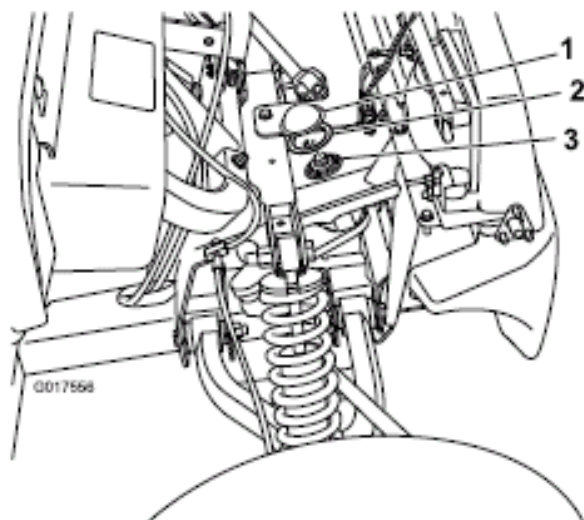

Figure 1
4. Locate the steering box opening (Figure 1).
6. Remove the adhesive backing from the other side of the gasket and adhere the cover to the frame as shown in Figure 1.
5. Remove the adhesive backing from one side of the adhesive gasket and adhere the gasket to the flange on the underside of the cover (Figure 1).